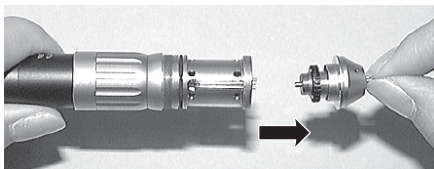

Fig. 16
- 2) Hold the bur and pull out the cartridge toward the front. (Fig.16) At this time, the O-ring placed on the rear bearing may remain in the body. Make sure to remove the O-ring.